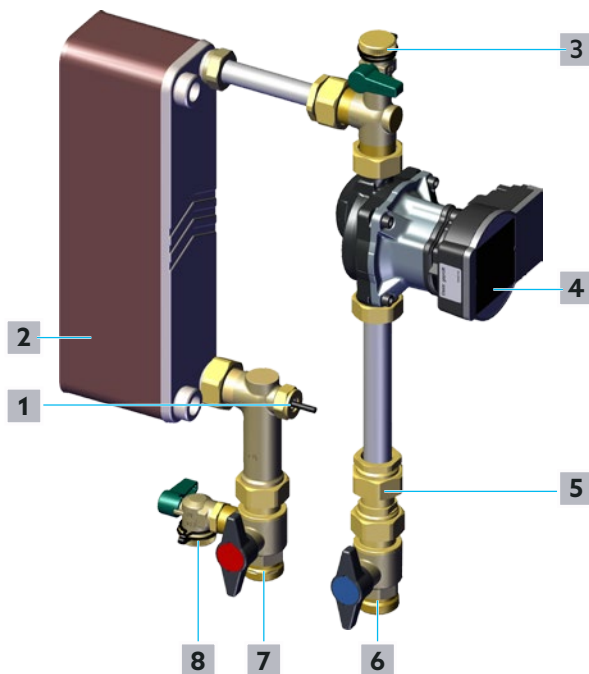

Fig. 18: Filling and venting of the storage cylinder circuit
- 1 Slowly open the shutoff ball valve for storage cylinder circuit supply (position 7 in Fig. 18 on page 25 and position 2 in Fig. 2 on page 12).
- 2 Unscrew the cap of the fill and drain ball valve for storage cylinder circuit return (position 3 in Fig. 18 on page 25 and position 9 in Fig. 2 on page 12).
- 7 Slowly open the shutoff ball valve for storage cylinder circuit return (position 6 in Fig. 18 on page 25 and position 9 in Fig. 2 on page 12).